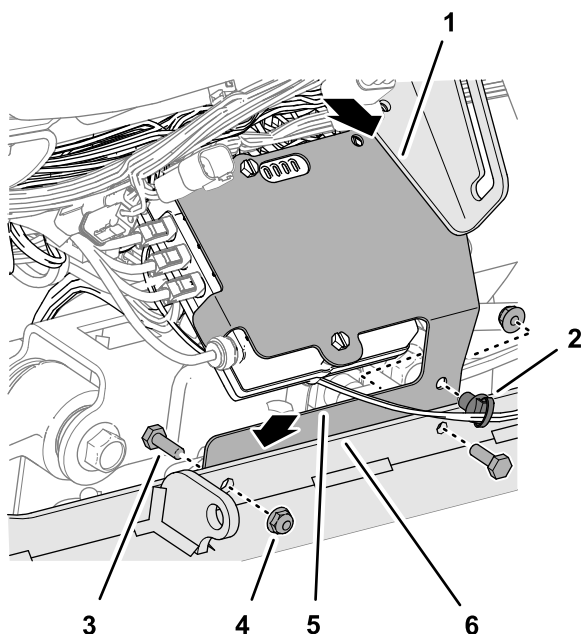

Figure 89
5. Align the modem bracket (Part No. 140-1394) under the prop-rod bracket and behind the flange of the machine frame as shown in Figure 89.
6. Insert the lower push-in fastener of the wire harness into the hole in the modem bracket as shown in Figure 89.